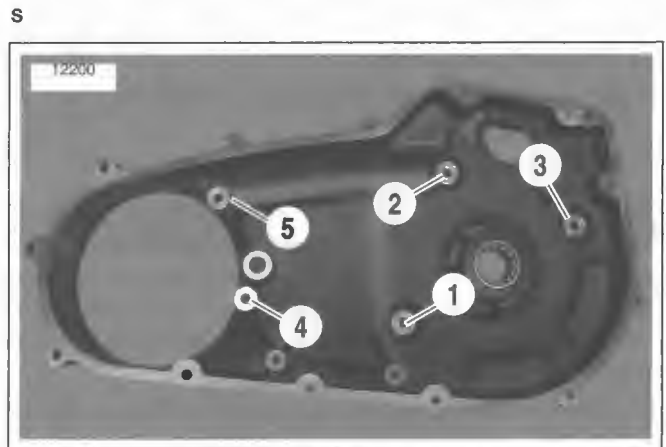

Figure 6-8. Sealing Fastener Torque Sequence
5. See Figure 6-8. Tighten fasteners in sequence shown to 25-27 ft-lbs (33.9-36.6 Nm).